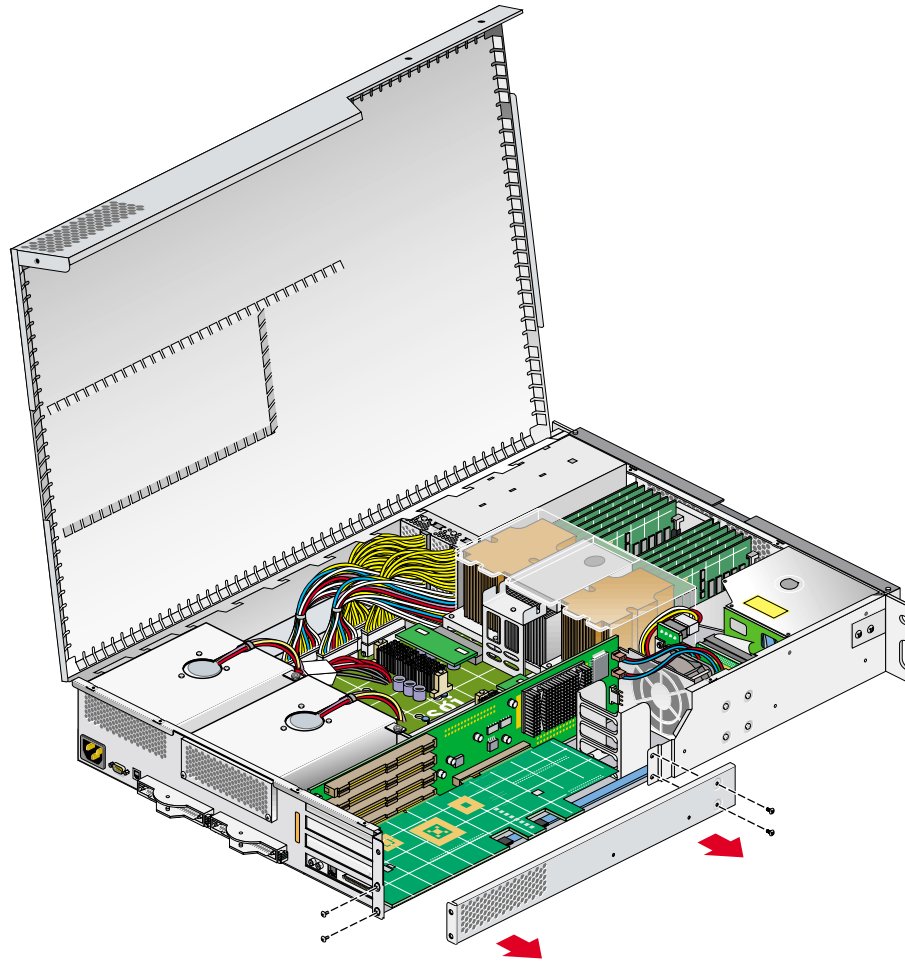

Figure 4-5 Removing the Lower PCI/PCI-X Support Bracket
9. If you are installing a card in one of the two lowermost card slots, you must remove the lower PCI/PCI-X support bracket that covers the two lowermost slots, as shown in Figure 4-5, by removing the four Phillips screws.